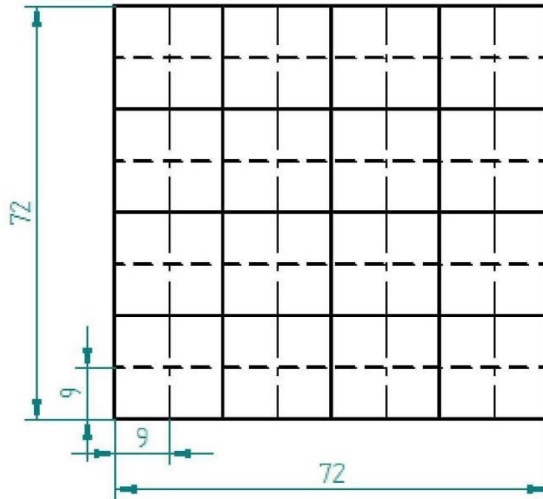
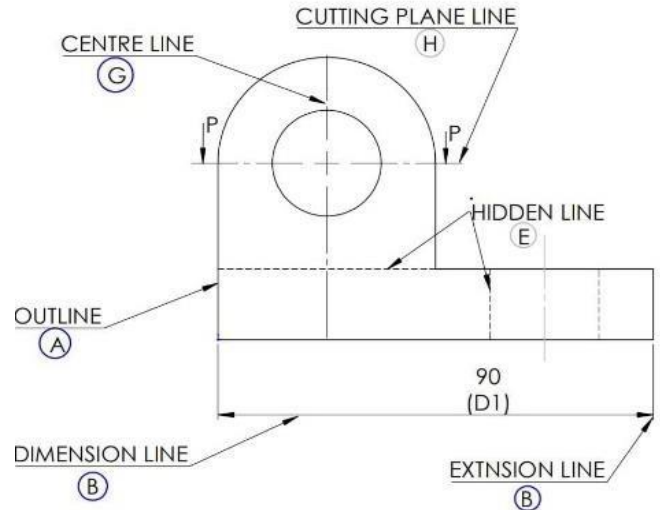

Fig.1
Fig.2
- Draw Fig.1 & Fig.2 as per the drawing and identify types of lines.